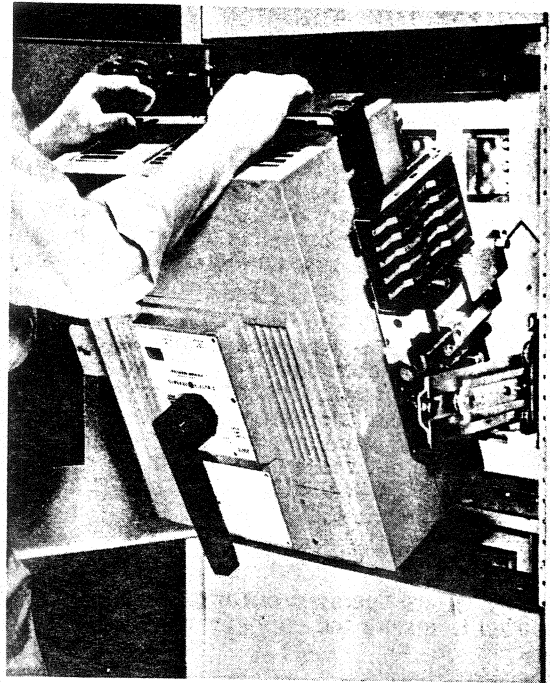

FIGURE 34. TILTING THE BREAKER
3. To inspect rear of breaker, pull it out to end of rail and rotate forward to inverted rest position. See Figs. 34 & 35.